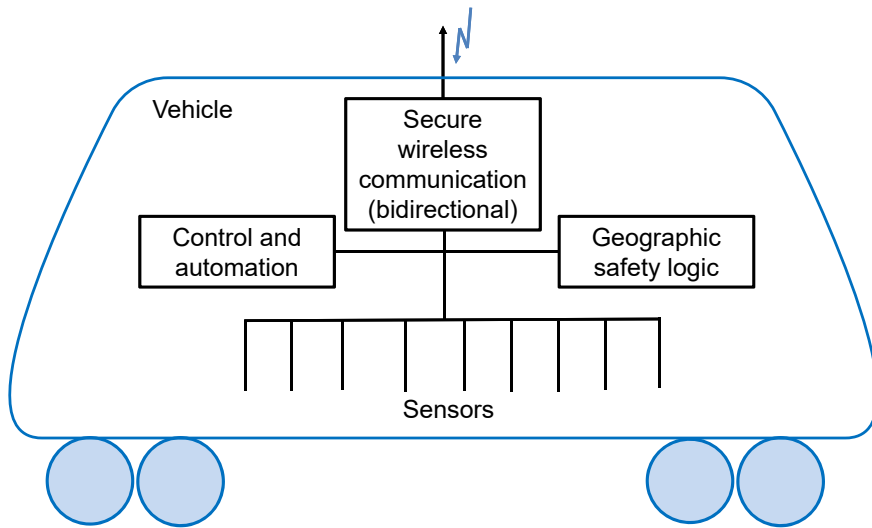

Figure 6 –Representative architecture of the on-board system with Command and Control 4.0.
operation (ATO) no big variations are to be expected (and in addition, the working environment will be healthier and safer). With advances of artificial intelligence (AI) an unprecedented variety of opportunities might open up here. Autonomous systems will evolve from recipients of a 'movement authority' to vehicles able to calculate their own safety envelope (risk based). A more detailed representation of the system on board is shown in Figure 6.